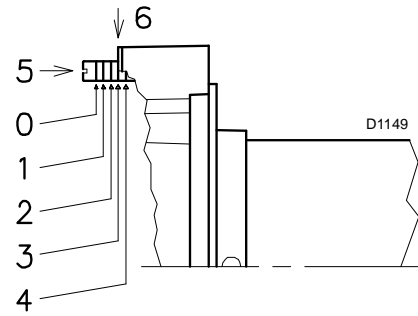
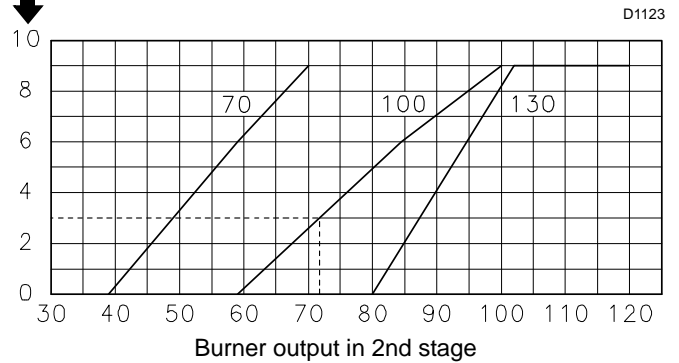

Fig. 17
Fig. 18
- Turn the screw 5)(Fig. 17) until the notch indicated by the diagram (Fig. 18) corresponds with the front part of the flange 6)(Fig. 17).
- The diagram (Fig. 18) shows that for this output, the adjustment of the combustion head is carried out on the notch 3, as in Fig. 17.